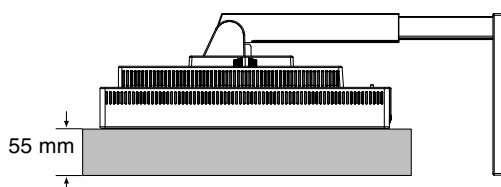

Figure S.1
3. Place monitor face down on a non-abrasive surface. (Place the screen on a 55 mm/2.2 inch platform so that the stand is parallel with the surface) (**Figure S.1**).